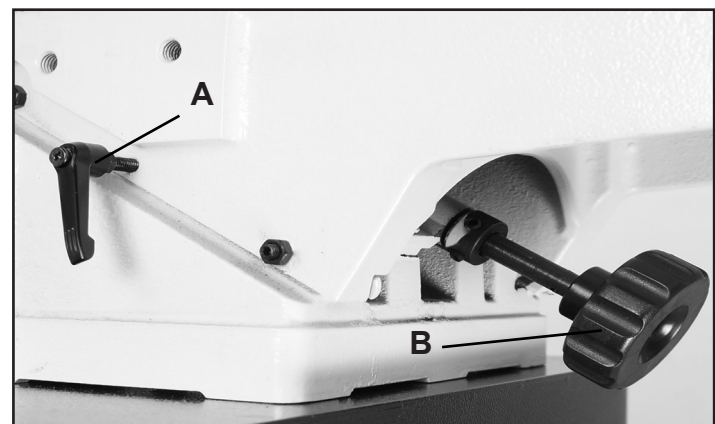

FIG. 32
A. Release the locking lever (A) at the rear of the outfeed table. FIG. 32.
B. Turn the handwheel (B) to adjust the outfeed table until it is parallel with the edge of the cutter(s). FIG. 32.
C. Once the table is set, tighten the locking lever (A) to secure the table in its new setting. FIG. 32.